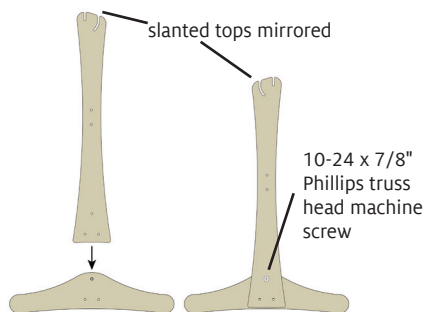

FIGURE 4: ATTACH LEG TO BASE
2. Orient legs and bases: Place each base on a work surface with the factory-installed propeller nuts facing downward (Figure 4). Orient the legs with their slanted tops mirroring each other. Set each leg on top of a base with the three holes aligned.
3. Attach legs to bases: Insert a 10-24 x 7/8" Phillips truss head machine screw into the uppermost hole of a leg. Attach the screw into the propeller nut of the base (Figure 4). Repeat for the remaining leg and base.